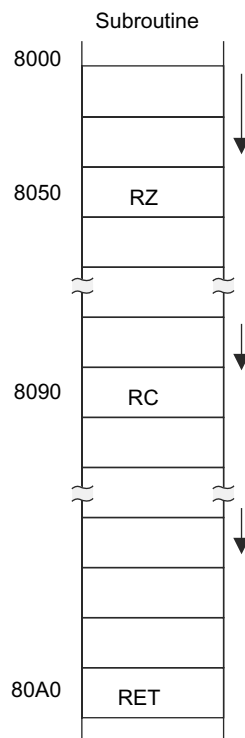

Fig. 4.8 Multiple ending subroutine
When a subroutine can be terminated at more than one place, it is called a *multiple ending subroutine*, as illustrated in Fig. 4.8. The subroutine has conditional returns such as RET Z (RZ) – Return On Zero and RET C (RC) — Return on Carry. This subroutine has an unconditional return (RET). While the Z flag is set, the subroutine returns from location 8050H, and if the CY flag is set, it returns from location 8090H. If neither flag is set, the subroutine returns from location 80A0H.